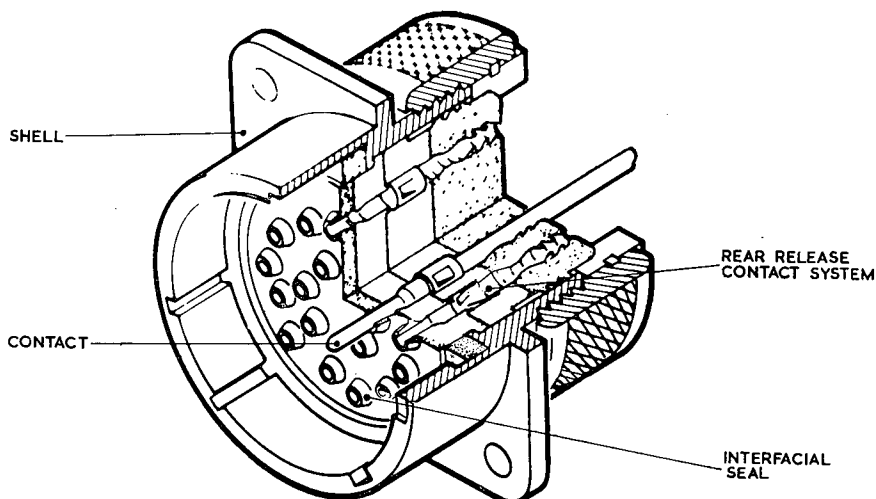

Fig. 2. Cut-away of connector
3. The construction of a PV series wall-mounting receptacle is shown in (fig. 2). It comprises an aluminium alloy shell which contains a moulded thermo-setting plastic insert. The mating face of the plug insert is provided with raised tapered barriers around each contact, which locate into lead-in chamfers on the socket inserts, to ensure individual contact sealing. The contacts are held in the insert by moulded-in shoulders.